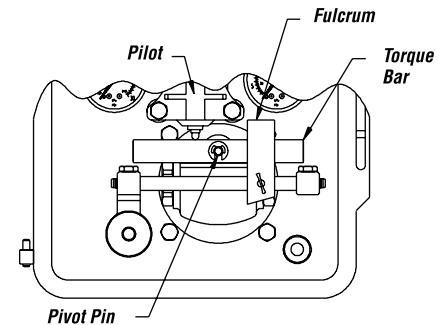
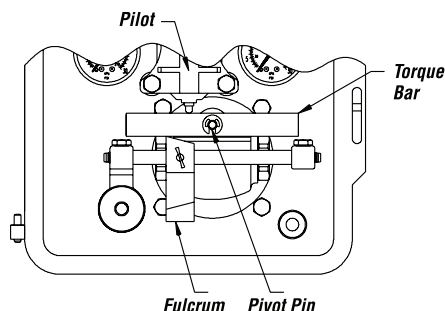

Figure 1 — Direct-Acting Controller
Figure 7 — Reverse-Acting Controller
The control is direct-acting (rising level increases pilot output) when the fulcrum is on the right of the pivot pin (refer to Figure 1).
**NOTE:** When the sensitivity fulcrum is to the right of the pivot pin, the unit is set for Direct Action (Figure 1). When the sensitivity fulcrum is to the left of the pivot pin, the unit is set for Reverse Action (Figure 7). It may be necessary to relax the tension from the balance spring to freely move the fulcrum.